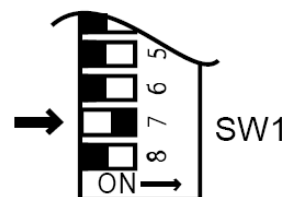

Fig. 3
10. Set the Rinnai Infinity to 'Forced Low' combustion by setting No. 7 dipswitch of SW1 to 'ON'. (Fig. 3)